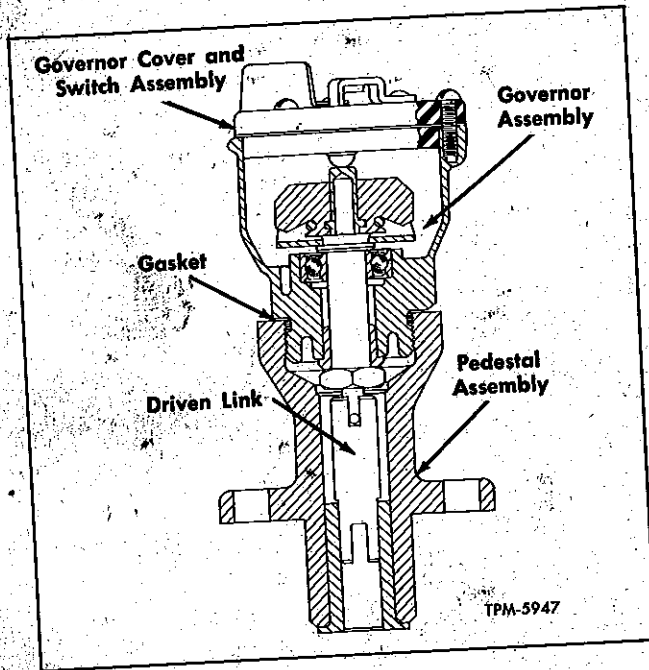

Figure 20—Transmission Governor and Pedestal Assembly
5. To adjust upshift, from hydraulic to direct drive, slowly increase speed and note RPM at which light turns on. Reduce speed until light is off, then adjust upshift screw (fig. 20) as necessary (in to lower or out to increase) to obtain desired setting. CAUTION: Do not turn upshift screw in too far.
6. To adjust downshift, from direct to hydraulic, increase speed until light turns on, then slowly decrease speed until light is off. Adjust downshift screw (fig. 20) as necessary (in to lower and out to increase) to obtain desired setting.